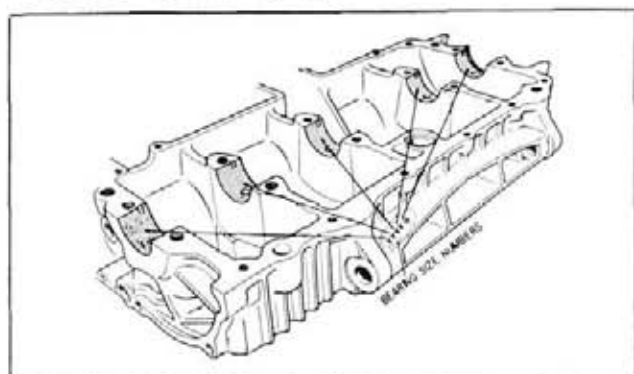

Fig. 3-80
- There are alphabet letters stamped on the forward section of the upper crankcase hanger bolt inserts. The stamped letter indicates the bearing size. Bearings are numbered sequence, starting from the right side. (Fig. 3-80)